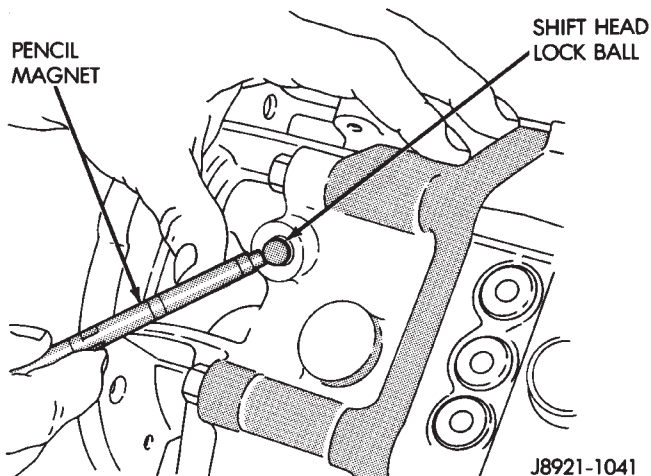

Fig. 11 Removing/Installing Shift Head Lock Ball
- (12) Remove shift head lock ball with pencil magnet (Fig. 11).